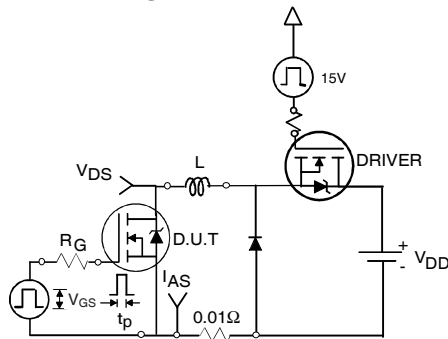

Fig 17a. Unclamped Inductive Test Circuit
3. Equation below based on circuit and waveforms shown in Figures 17a, 17b.